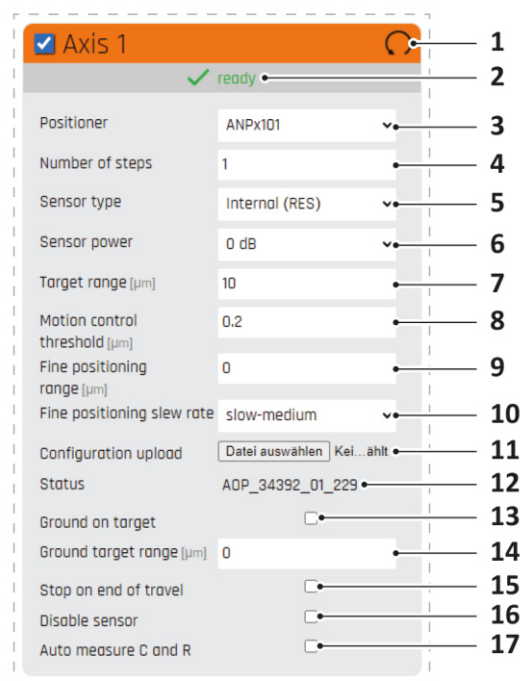

Figure 14 Axis tile, configuration view
The measurement of the electrical capacitance (C) and electrical resistance (R) will be started automatically every time an axis is activated - if not changed under "Auto measure C and R" (Figure 14/17). Also be aware of the fact that the positioner will be moved slightly (a few  $\mu\text{m}$ ) within those measurements. The procedure will take a few seconds.
**Sensor Power** Within the drop-down menu for the sensor power (Figure 14/6) you can choose between four different values:
**Fine positioning slew rate** Within the drop-down menu for the fine positioning slew rate (Figure 14/10) you can choose between four different pre-sets:
With the slew rate one can affect the fine positioning behavior of the positioners to avoid unwanted stepping and blindly following noise after reaching the desired target position. After the position is within the definable fine positioning range (Figure 14/9) around the target position, the speed of the positioner is adjusted. When set to "slow", the speed is decreased to a minimum, while the default behavior is "fast". Resultantly, "slow" does not follow high frequency disturbances on the position. Therefore, "slow" represents a very fine positioning, whereby "fast" represents a coarse positioning. This option does not affect the speed of the positioning when targeting a position outside of the "fine positioning range".